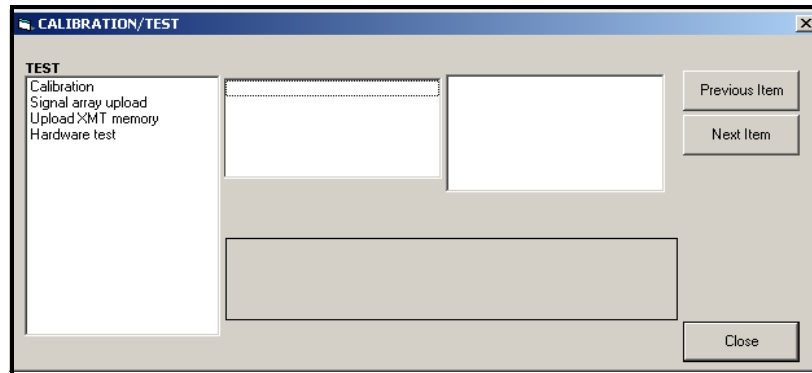

Figure 11: The Calibration/Test Menu
5. To enter data into the user program, double-click on the *Calibration/Test* menu. The window appears similar to Figure 11.
1. From the *Calibration/Test* menu (see Figure 11 on page 20), double-click on the *Calibration* entry to open the option.
To calibrate any option card installed in Slot 1 of the XMT868i, enter the *Calibration/Test* menu as shown in Figure 11 on page 20.